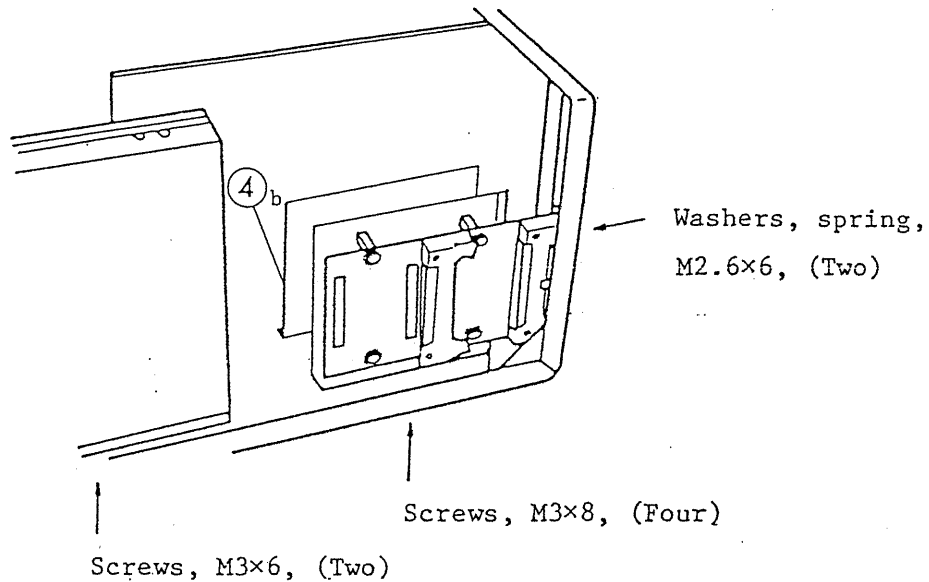

FIG. 10
- 7) Fix the bracket (to which the D/A converter is fixed) to the PAE with the screws from its bottom. (See Figure 10)
- 8) Fix the bracket (to which the connector board is fixed) to the PAE with the screws from its bottom. (See Figure 10)